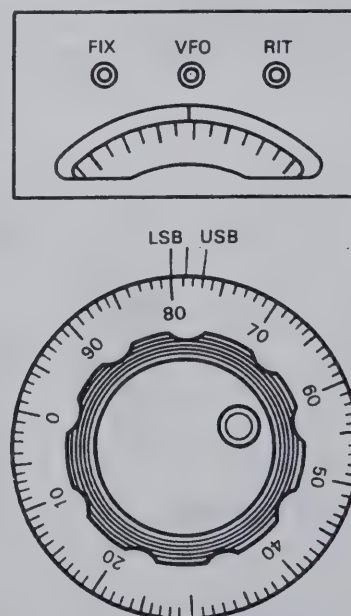

Fig. 9 Reading the Operating Frequency (Refer to Section 4.3)
4.3 READING THE OPERATING FREQUENCY (See Figure 9)